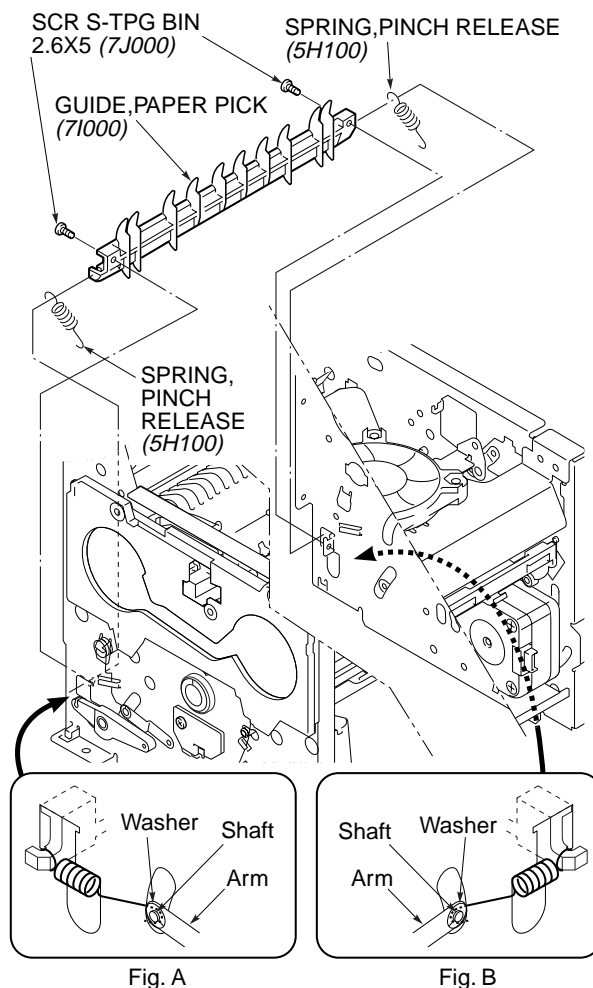

Fig. 3-5-2
- 1) After remove the two "SCR S-TPG BIN 2.6X5 (7J000)" and the two "SPRING, PINCH RELEASE (5H100)", remove the "GUIDE, PAPER PICK (7I000)". (Refer to Fig. 3-5-2.)
6. Insert and hook the long end of the "SPRING, PINCH RELEASE (5H100)" between washer and arm plate, and hook the short end onto the "GUIDE, PAPER PICK (7I000)" as shown in Figs. A and B of Fig. 3-5-2.